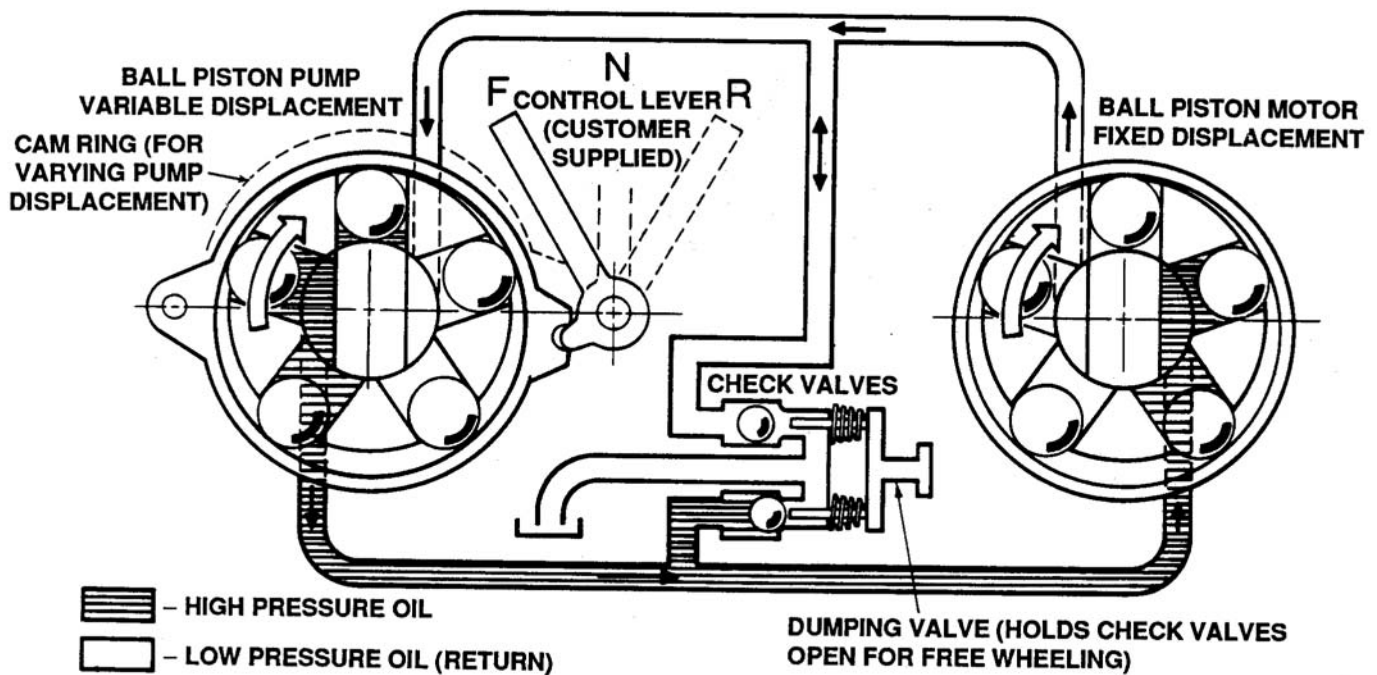

Figure 6-3. Fluid Flow Diagram
2. Check valves on the inlet side of the pump are open to the reservoir enabling the pump to draw fluid as needed. Speed control is achieved by changing the amount of oil delivered by the variable displacement pump to the fixed displacement motor by moving the control lever. See Figure 6-3.